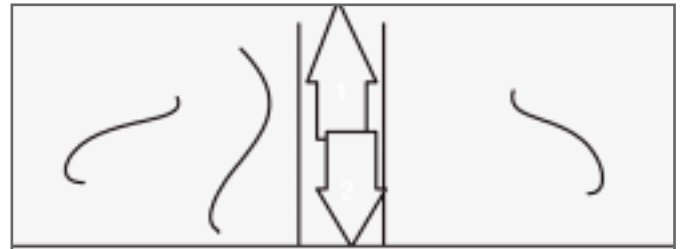

Fig 3: Squeegee from the centre
- a. Use a large window squeegee and very light pressure to smooth out the entire graphic, starting at the center and working toward the edge, in the order shown in Figure 3. After this step, the film should be flat on the substrate and most of the water squeezed out.